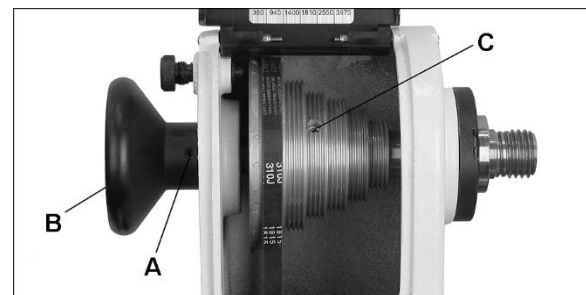

Figure 11-1
Refer to Figures 11-1 through 11-4:
4. Engage spindle lock, and loosen both set screws (A, Figure 11-1) in handwheel with 3mm hex key. Unscrew handwheel (B) from spindle. (Note: Left-hand threads; turn clockwise to remove.)
6. Loosen both setscrews (C) in spindle pulley.